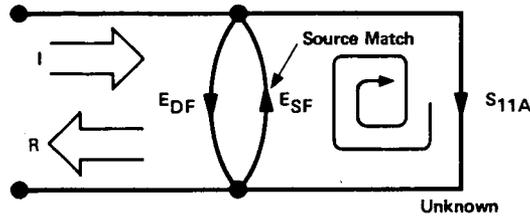

Figure 5-25
Since the measurement system test port is never exactly the characteristic impedance (50 ohms), some of the reflected signal bounces off the test port, or other impedance transitions further down the line, and back to the unknown, adding to the original incident signal (I). This effect causes the magnitude and phase of the incident signal to vary as a function of S_{11A} and frequency. Leveling the source to produce constant (I) reduces this error, but since the source cannot be exactly leveled at the test device input, leveling cannot eliminate all power variations. This re-reflection effect and the resultant incident power variation are caused by the source match error, E_{SF} (Figure 5-25).